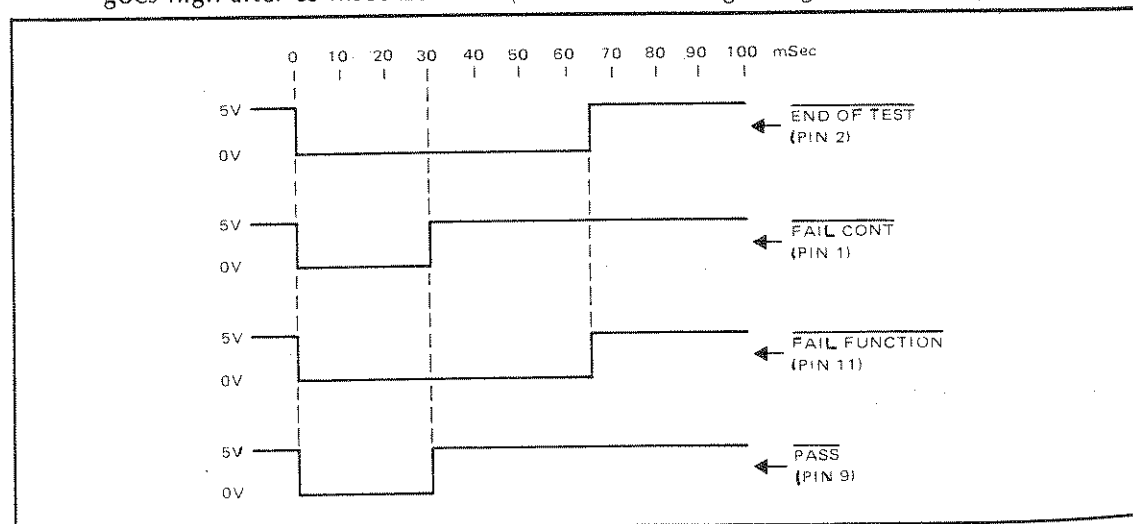

Figure 4-6. Automatic Handler Signal Timing
- e. Adjust scope trigger until the $\overline{\text{EOT}}$ signal stabilizes. Using the horizontal position control, move the signal so that beginning of trace is in a convenient location. Verify that the $\overline{\text{EOT}}$ signal is low for about 65 ms (see Figure 4-6).
- h. Connect the CH B Probe to the $\overline{\text{FAIL CONT}}$ line (pin 1 on the J5 cable). Compare the signal to that shown in Figure 4-6. Verify that the $\overline{\text{FAIL CONT}}$ signal goes high after 30 msec \pm 5 msec (referenced to beginning of $\overline{\text{EOT}}$ Trace).
- j. Compare the signal displayed to that shown in Figure 4-6. Verify that the $\overline{\text{FAIL FCN}}$ signal goes high after 65 msec \pm 5 msec (referenced to beginning of $\overline{\text{EOT}}$ trace).